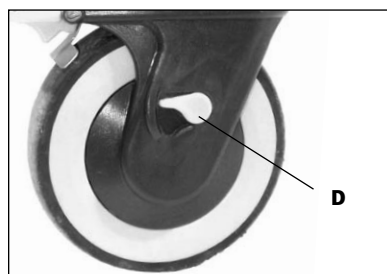

Figure 7
- Place clamps on the inside or the outside of the top bar (Figures 7 & 8).
- Use knob (A) to slide sides of Chest Prompt in or out.
- Loosen knobs (C).
- Slide Chest Prompt backward or forward on the frame, and retighten knobs (C).
- Or completely remove the Chest Prompt from the Pacer (Figures 7 & 8).